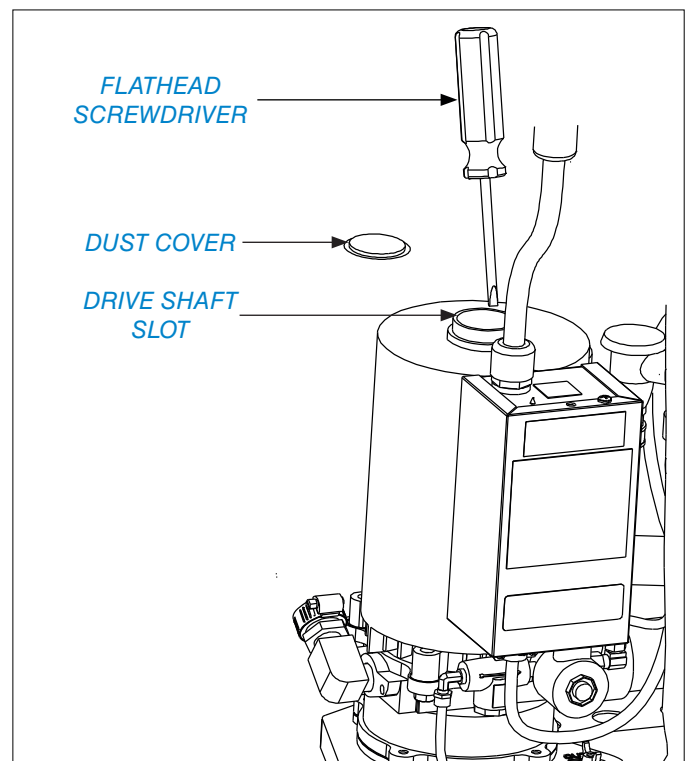

FIGURE 6. REMOVE DUST COVER AND ROTATE SHAFT
3. Remove the dust cover located at the top center of the motor (**FIG 6**).